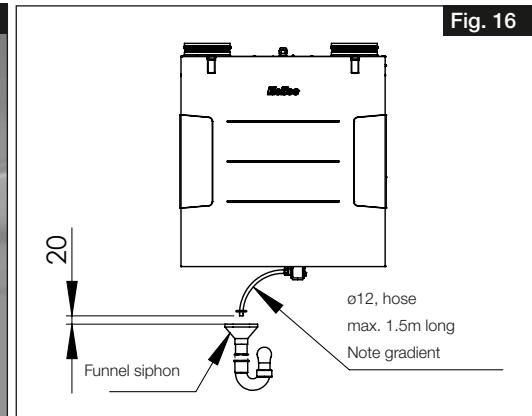

Fig. 16
5. Connect siphon casing and turn a 1/4 turn in the mounting part (see Fig. 16). Ensure that the float ball is loose in the casing!
- > The condensate hose must end 20 mm above the open drain or possible water level (see Fig. 16).
- > The condensate hose from the ball siphon must have a downward gradient, openly dripping into a funnel siphon and must not be discharged into a closed system (see Fig. 16).